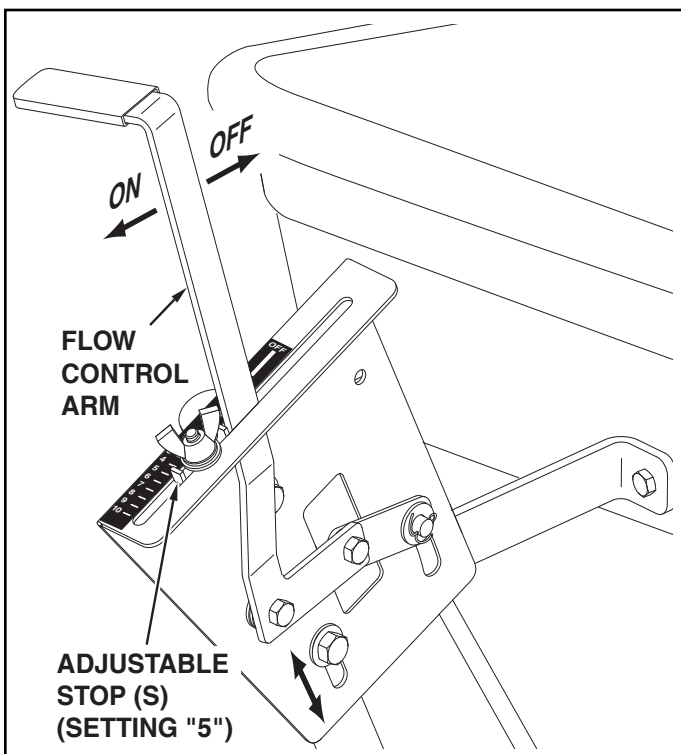

FIGURE 12
24. Position the flow control mounting bracket (figure 12).
(Refer to figure 12 on page 7.)